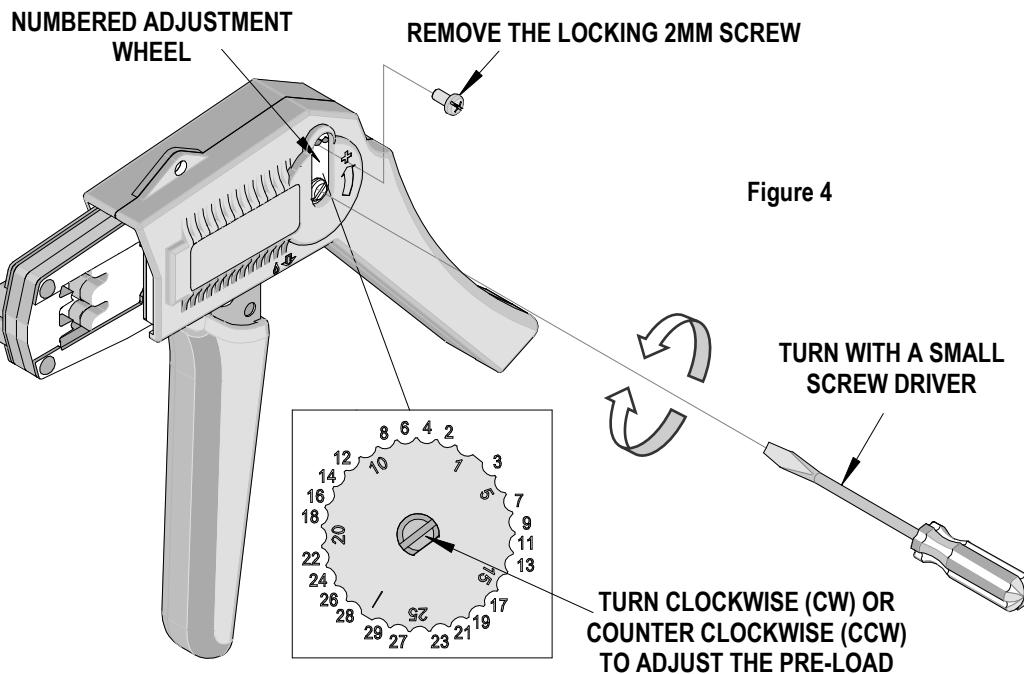

Figure 4
1. Remove the 2mm locking screw from the numbered adjusting wheel using a screw driver. See Figure 4.